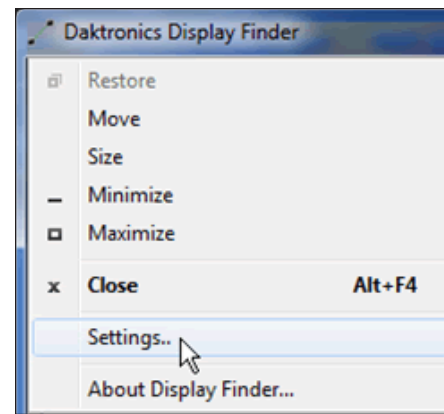

Figure 16: Display Finder Settings
2. Click **Settings**. Refer to **Figure 16**.